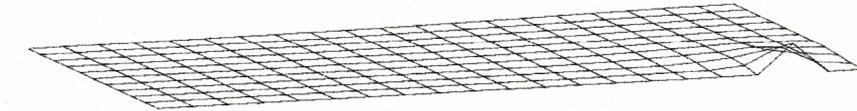
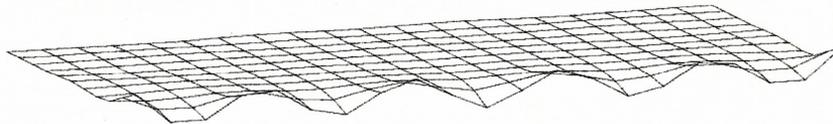

Figure 4 Constraint mode with an unknown frequency contribution.
Figure 5 *Boundary eigenvector* with a 1250 Hz natural frequency.
- Constraint modes are replaced with *boundary eigenvector*, a concept best illustrated by comparing the modes before and after orthogonalization of a rectangular plate which has Craig-Bampton attachment points along one of its long edges. The Craig-Bampton mode in Figure 4 features a unit displacement of one of its edge nodes with all the other nodes along that edge fixed. After orthonormalization we see modes like the one depicted in Figure 5, which has a sinusoidal curve along the boundary edge.
3. Although the removal of any mode constrains the body from adopting that particular shape, the removal of a high-frequency mode such as the one depicted in Figure 5 is clearly more benign than removing the mode depicted in Figure 4. The removal of the latter mode prevents the associated boundary node from moving relative to its neighbors. Meanwhile, the removal of the former mode only prevents boundary edge from reaching this degree of “waviness.”